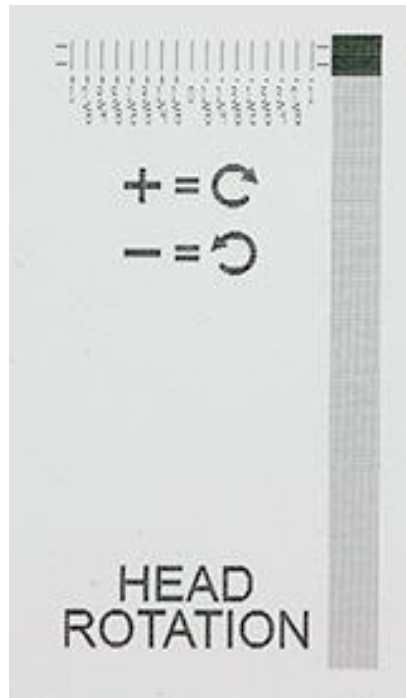

Figure 7: Head rotation-test print one color
2. Choose the **T1000_Head_Rotation_CMYK.ism** or **T1000_Head_Rotation_WW.ism** from the test prints list. Print the image (Figure 7).